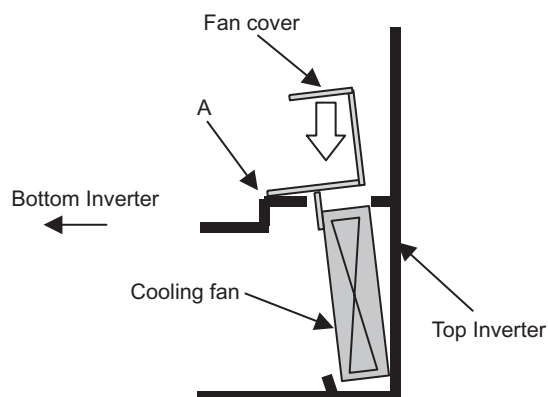

Fig 8.4
1. Tilt the fan cover toward the bottom of the Inverter as shown in Fig 8.4 and insert it to the mounting hole until it meets with A.